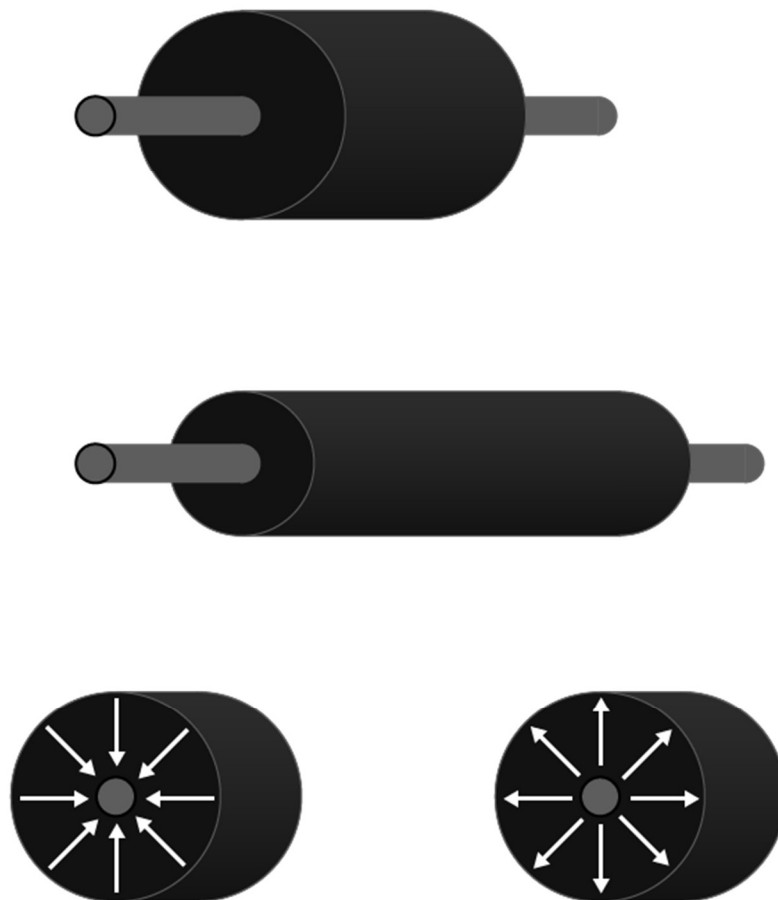

Figure 3. A schematic illustration of four types of scrubbers with different shapes and flow directions. The arrows indicate the direction of gas flow.
6. Scrubber design. There are many types and shapes of scrubbers and they generate different flow patterns (Figure 3). In scrubber A the flow of gas is along the axis of the scrubber (hence “axial flow”). Scrubber B has axial flow as well, but the scrubber is longer and narrower than A. In scrubbers C and D the flow is from the outside to inside or from inside to outside of a circular